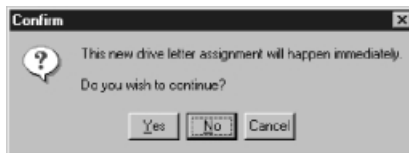

Fig. 10 Confirmation dialog box
6. The confirmation dialog box shown in Fig. 10 now appears. Click [Yes].
6. The confirmation dialog box shown in Fig. 10 now appears. Click [OK].